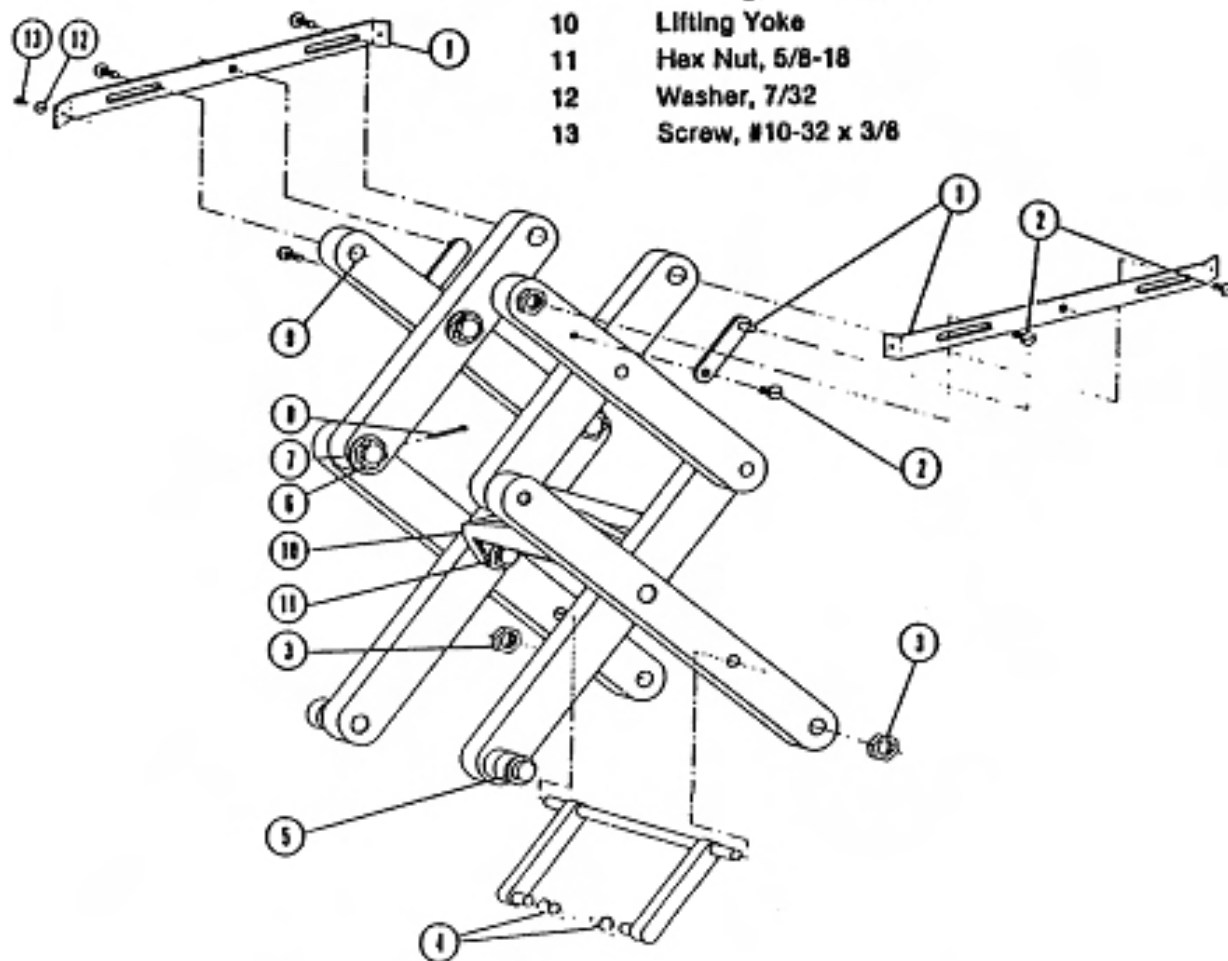

Figure 1-4. Pantograph arms.
(3) Lubricate the pantograph arms by extending them to their full length and applying white grease to each movable joint. Refer to figure 1-4.